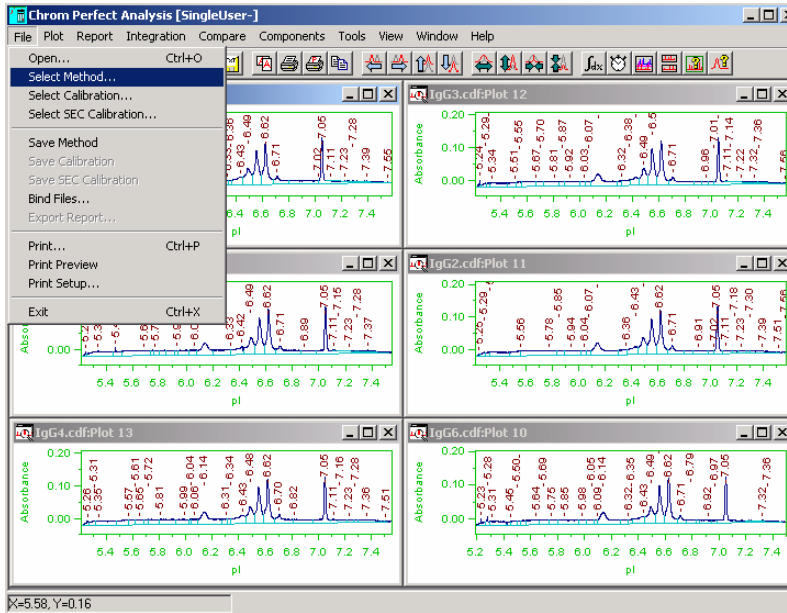

Figure A-38: Data Files Organized in a Tile Format
5. Highlight all the six data files and then click **Open** button to open all these six data files. The six data files are display in "Tile" style as shown in Figure A-38.